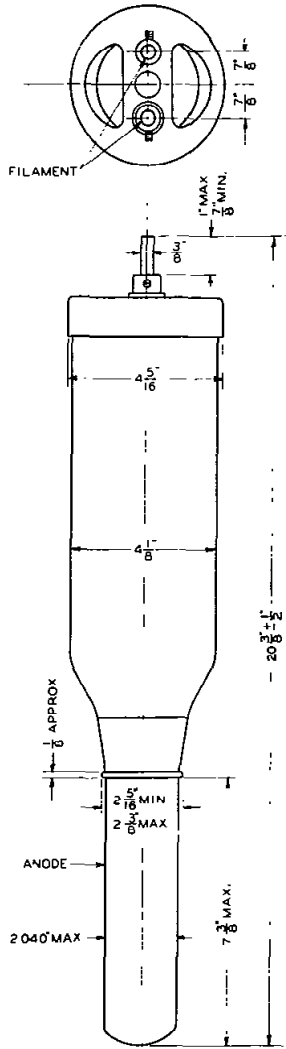

FIG. 1
**Mechanical**—Figure 1 shows the overall dimensions and basing arrangement for the tube.